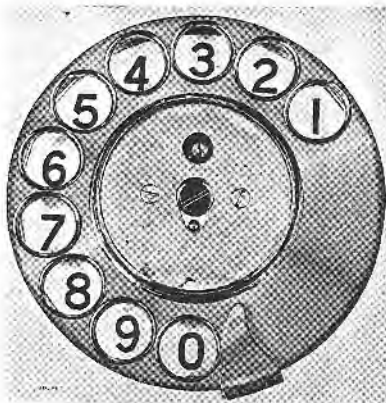
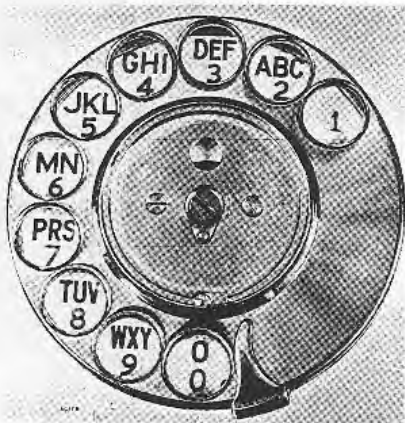

FIG. 1.—SLIPPING-CAM TYPE DIAL—FRONT VIEW
FIG. 7.—TRIGGER TYPE DIAL—FRONT VIEW
★3. General.—For a long time all the dials used by the P.O. were of the slipping-cam type, illustrated in Figs. 1, 2 and 3 and described in pars. 4 and 5. This type of dial was superseded by a trigger type which is shown in Figs. 7, 8 and 9 and described in par. 6 and 7. However, a large number of the slipping cam dials are still in use and will remain so for a number of years. The latest type of trigger dial is shown in Figs. 15 and 16 and described in par. 17. Dials of the trigger type are fully interchangeable with their counterparts of the slipping-cam type. The arrangement of the terminals is similar but there are slight differences in physical dimensions. The electrical characteristics are identical. Dgms. N 581 to N 584, N 588, N 610, N 612 and N 613 show the terminal numbering and spring-set connexions.
4. Description of Dial, Automatic, No. 10LA (slipping-cam type).—A Dial, Automatic, No. 10LA is illustrated in Figs. 1, 2 and 3. It consists of a circular case in the centre of which is a brass bush in which the main spindle and gear-wheel turn. On the main spindle, at the rear of the dial, are mounted a main spring in a spring box, a pulse wheel, a slipping cam between washers, a spring washer and an off-normal lever. The outer end of the main spring is anchored in the spring box, which is keyed to the spindle, and the inner end of the spring engages in a slot in the brass bush. When the spindle is rotated clockwise, as viewed from the dial front, the spring is wound up. The dial mechanism is held in its rest position against the tension of the main spring by a screw in the main gear-wheel engaging with a post in the case. Removal of the screw allows the main spring to unwind.
trigger type dial is similar to that of the slipping-cam type (as described in par. 4) and is shown in Figs. 7, 8 and 9.